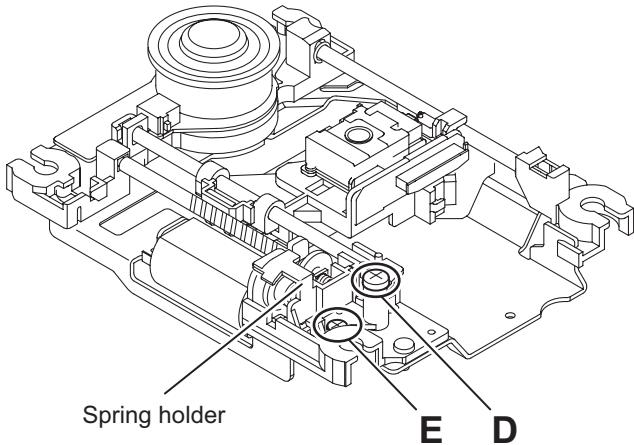

Fig.6
- (2) Remove the screw **D** and **E** attaching the spring holder. (See Fig.6)